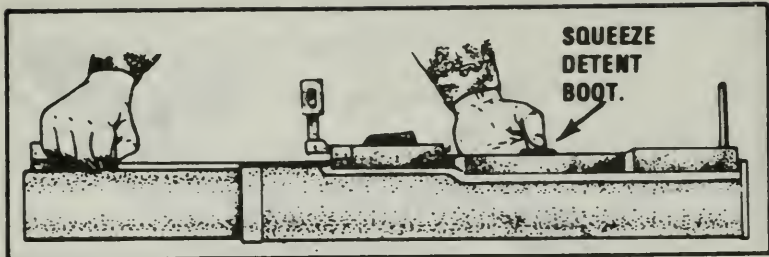

Figure 164. Depressing the detent boot.
- b. Grasp the launcher by the rear sight housing and depress the detent boot (Figure 164).